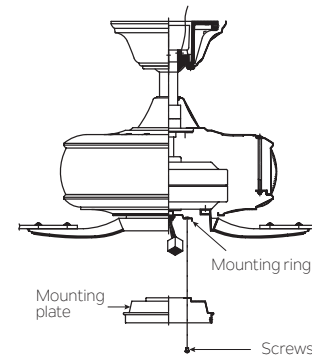

**Fig. 14**
**Step 1.** Attach a blade to a blade bracket using the screws and fiber washers provided. (Fig. 14)
**Step 2.** Attach each blade assembly to the motor using the “Pre-Installed” mounting screws in the blade bracket. (Fig 14)